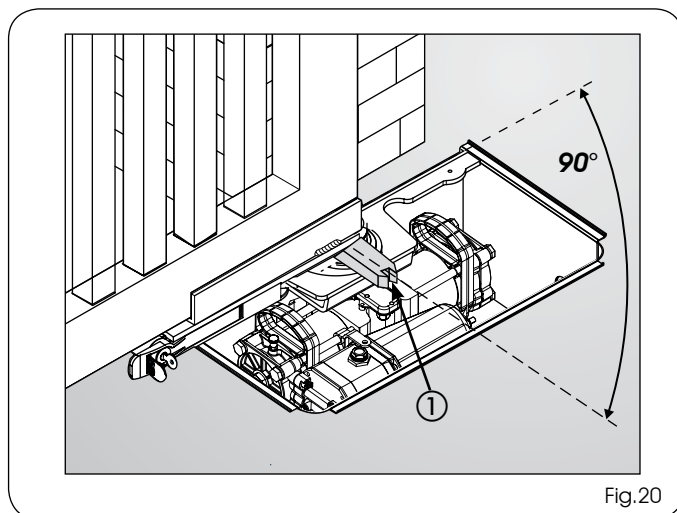

Fig.20
- 12) Take the released gate into open position, making sure that the released part freed from the gate **remains in the gate closed position as shown in Fig.20 ref. ①.**